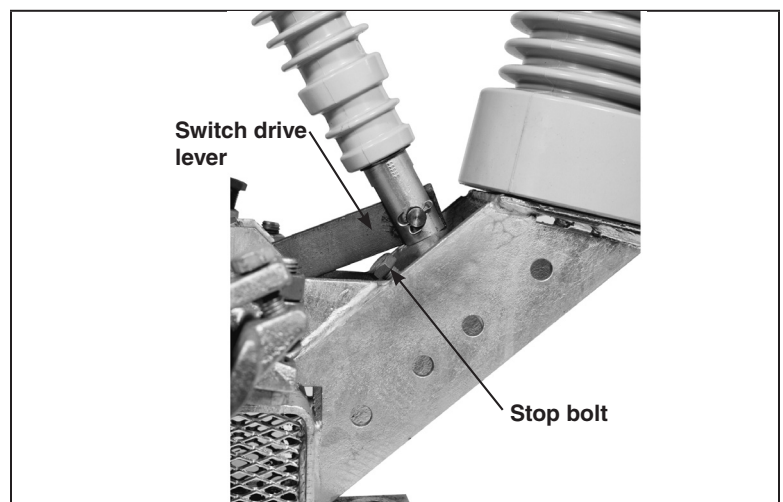

Figure 32. Verify the switch drive lever assembly is within $\frac{1}{16}$ -inch of the closed stop bolt.
- (b) Each switch drive lever is within $\frac{1}{16}$ -inch of the closed stop bolt. See Figure 32.